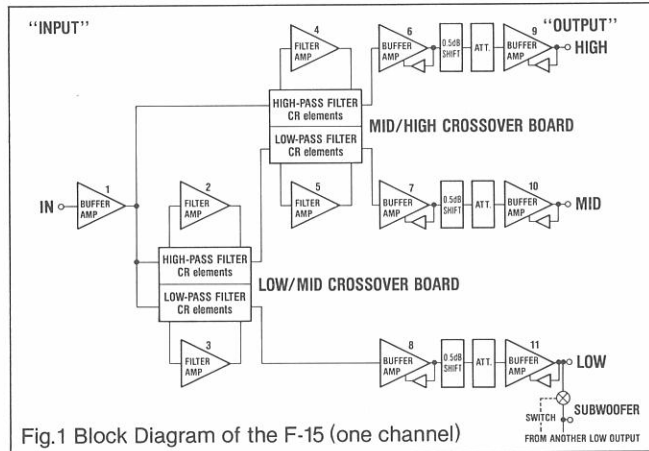

Fig. 1 Block Diagram of the F-15 (one channel)
An electronic frequency dividing network is made up of a combination of active filter amps and buffer amplifiers. Figure 1 shows the block diagram of the F-15. All unit amps are identical at Gain "1". Amplifiers (2) to (5) are Active Filter Amps which form the crossover frequency characteristics in combination with their associated CR elements.
A further 0.5dB step attenuation control is possible by using them in combination with the 0.5dB Shift Buttons (see Fig. 1). This provides 41-point attenuation in the control range from 0 to 20.5dB and infinity.
The crossover frequencies can be changed by interchanging the plug-in type Crossover Frequency Boards. They are designated as CROSSOVER BOARD in Figure 1. Each block contains CR elements that are neatly laid out for both the left and right channels.